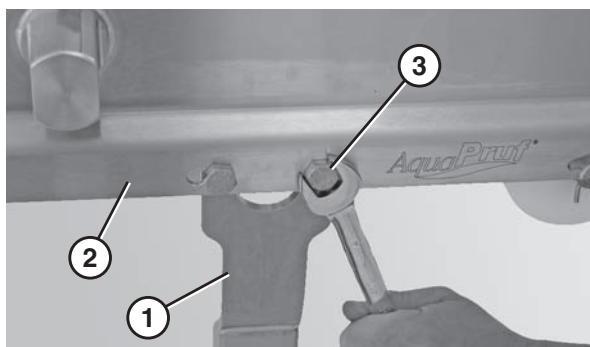

Figure 38
2. Attach the non-quick release side of the stand (**Figure 38, item 1**) to the MOTOR SIDE of the conveyor (**Figure 38, item 2**) using two M10-1.5 x 12mm hex head cap screws (**Figure 38, item 3**).